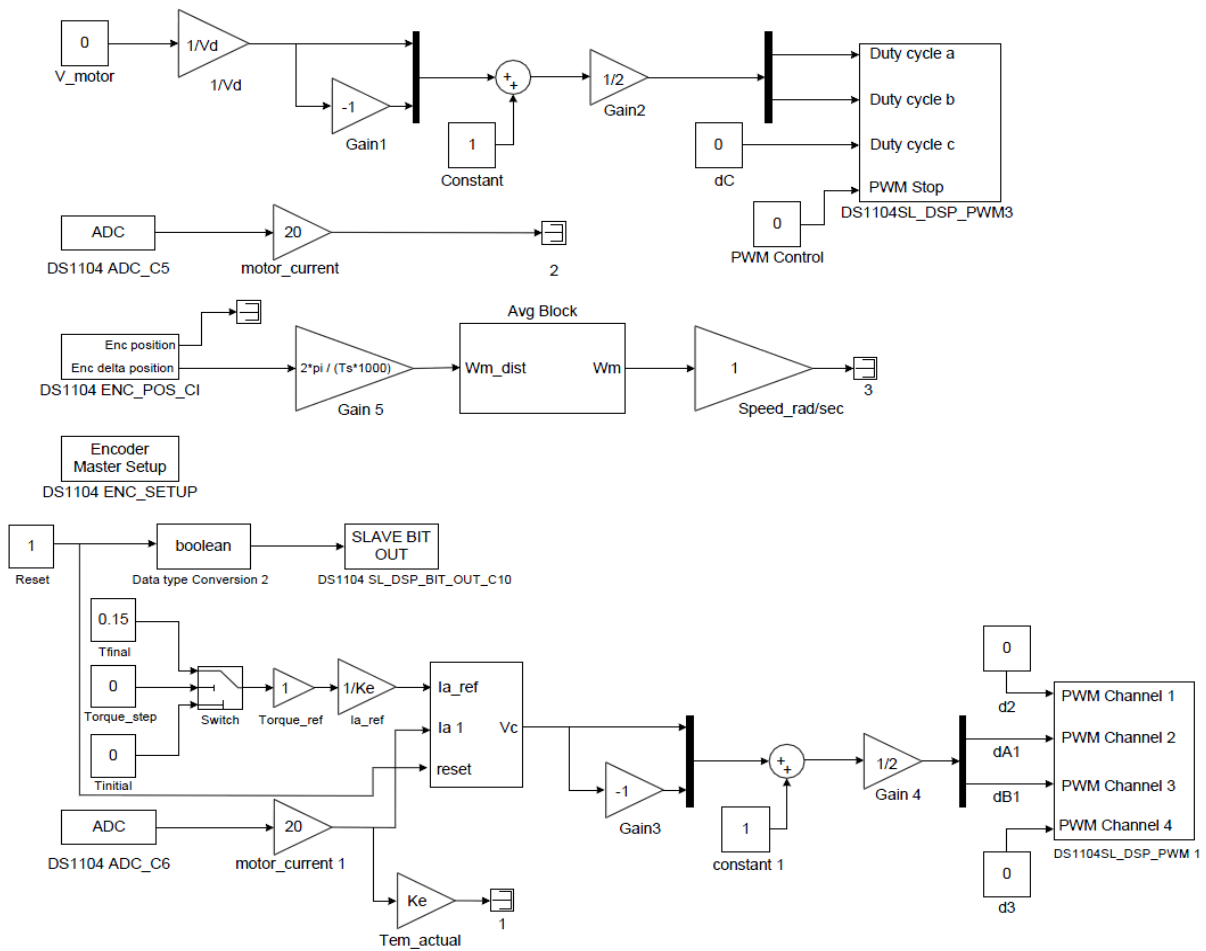
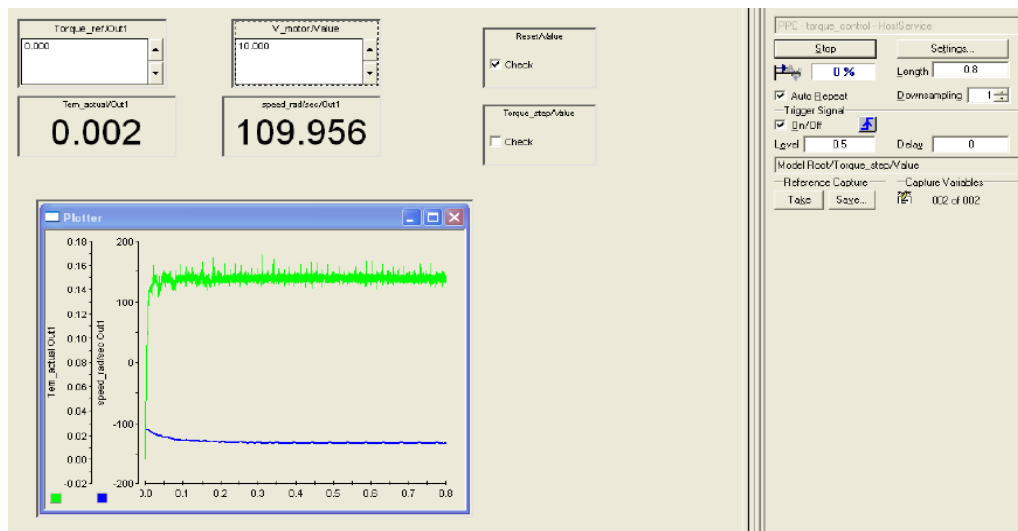
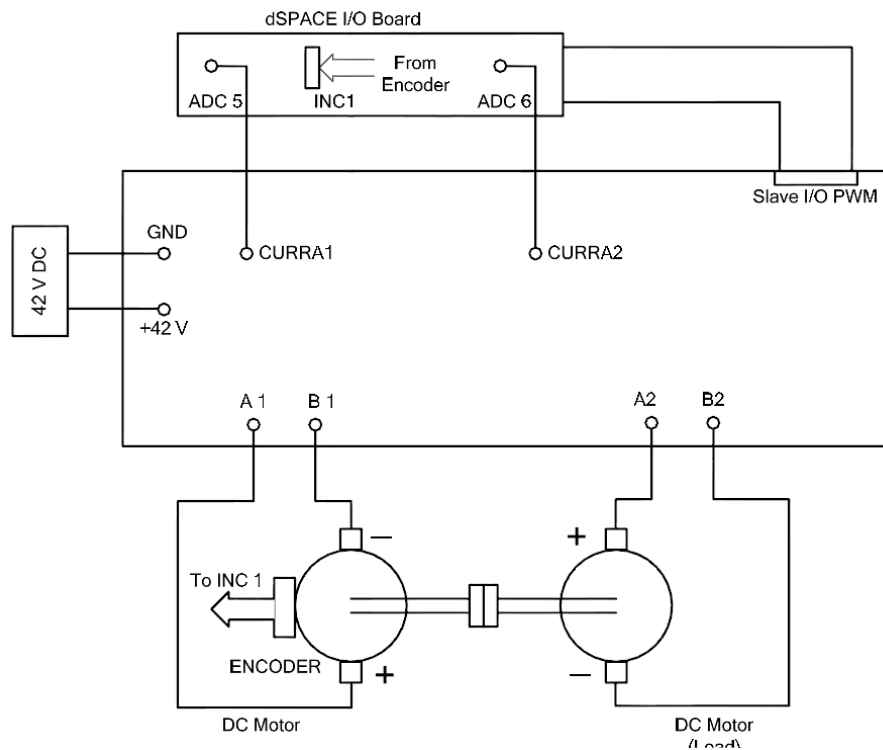
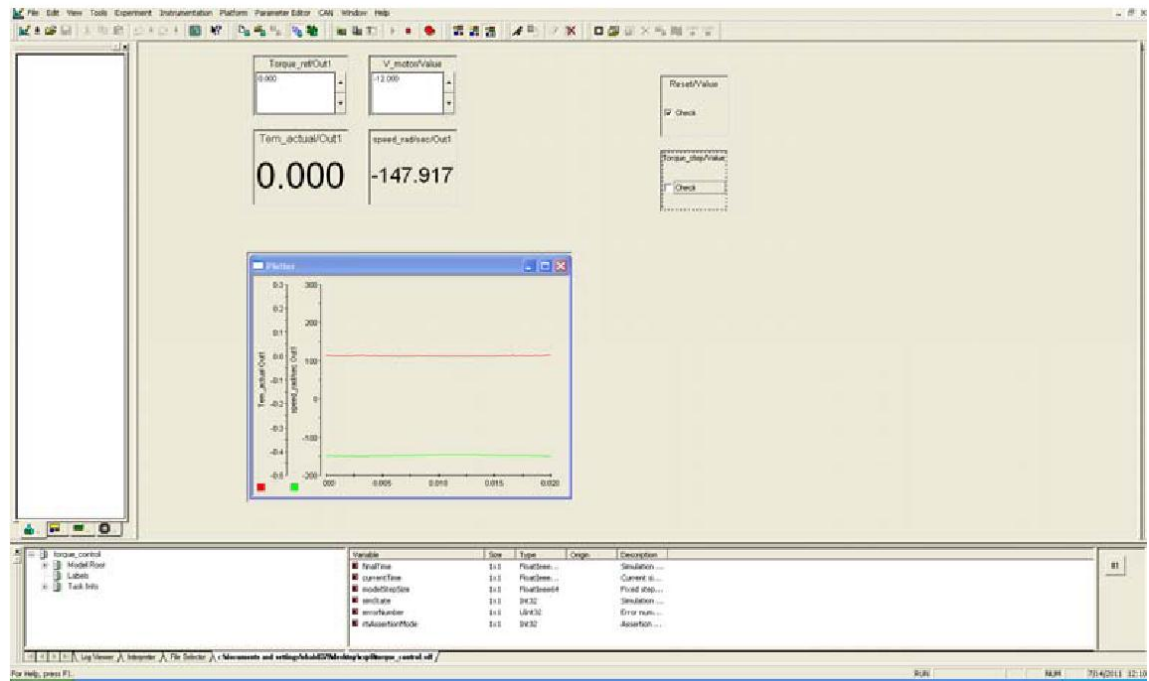

Figure 6.3: Simulink model for constant torque on DC motor
Figure 6.4: dSpace Control Desk layout for constant torque on DC motor.
Figure 6.5: Connections for constant torque on DC motor
Figure 6.7: Modeling A Crane Load
The Simulink model for constant torque on DC motor is shown in Fig. 6.3. Open the file ‘**torque_control.mdl**’. Assign suitable values to the PI current controller that was obtained from the previous experiment-5. Enter the value of $V_d = 42$ and $T_s = 1e-4$ at command prompt. Build the model (Ctrl+B) and start dSpace ControlDesk. Open the (.sdf file) and the layout file “**torque_control.lay**” setup the capture setting window (View→Controlbars→Capture setting window) as shown in Fig 6.4 and the connections are shown in Fig. 6.5.
1. Set up the experiment as shown in Fig. 6.5. The response of torque and speed can be seen in Fig. 6.7.
1. Set up the experiment as shown in Fig. 6.5.